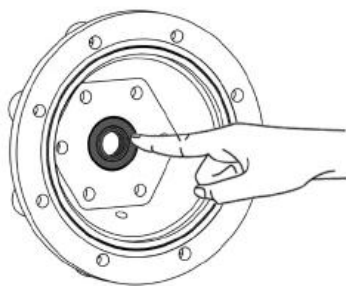

Figure 11
- ◆ Remove the transition section, save the push rod, spring and bolt, pry out the oil seal in the middle of the transition section, and then install the new oil seal. (See figure 11).